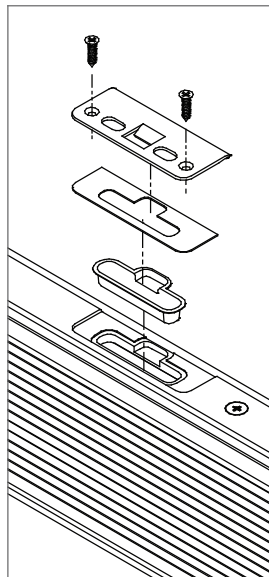

Figure 3
Attach with (2) #8 x 5/8" screws. See Figure 3.